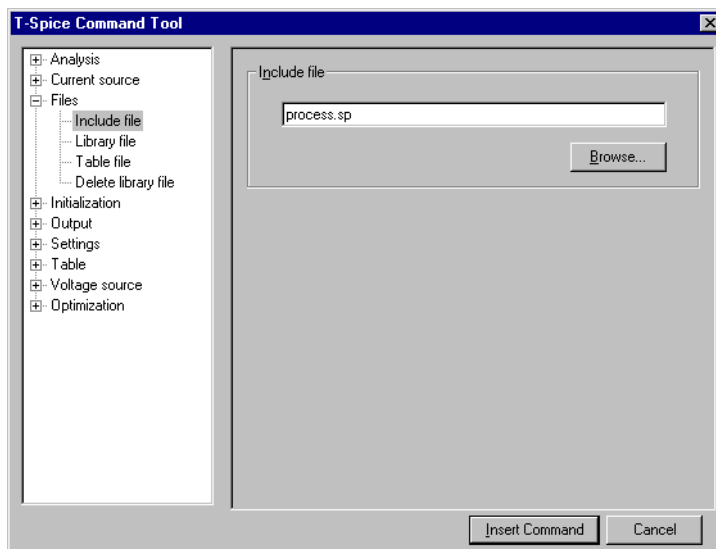

Figure 89: **T-Spice Command Tool** dialog
- ☑ Select the **Command Tool** button to enter the **Command** tool mode, or, left-click on the work area to invoke the **T-Spice Command Tool** dialog (Figure 89).